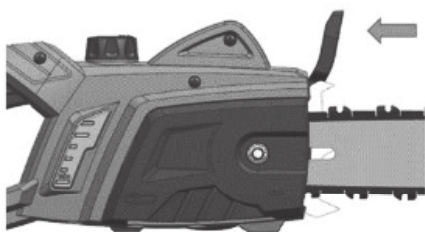

Fig. 1A
The chain brake is disengaged (chain can move) when the brake is pulled back and locked. This is the normal running position (Fig. 1A).
A. Make sure the chain brake is disengaged (Fig. 1A).